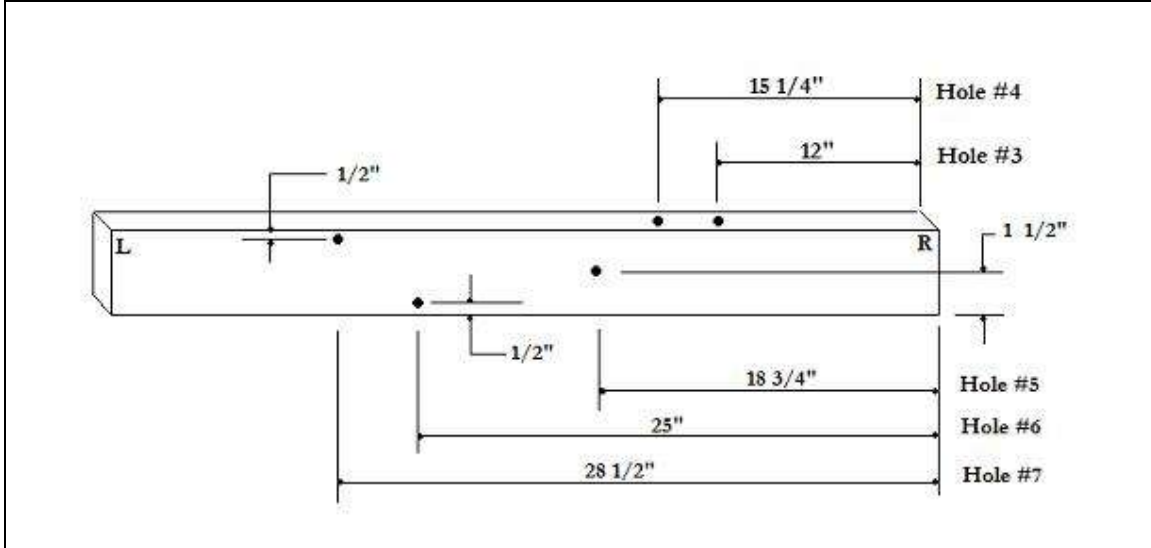

Fig. 2 - Rear Treadle Pulley Support Crossmember Holes
1) Install the Eye-Bolt for the Spring Lever Cord – (See Figure 2 & 4) From the inside, rear of the loom, into Hole No. 5 of the Rear Crossmember, insert the 5/16 -18 x 4” Eye-Bolt, with one (1) 5/16 –18 Jamb Nut and one (1) 5/16 “ Flat Washer. Secure it, on the outside of the Crossmember, with one (1) 5/16” Washer, and one (1) 5/16 –18 Nylock. This entire sub-assembly should be installed as follows:
2) Mount the Spring Lever Assembly – (See Figures 2 & 4) Load one (1) 3/8 – 16 x 3 1/2” Hex Bolt with one (1) 3/8 Washer, the Spring Lever (with factory inserted Bushing), and black plastic Spacer. Check to see that the hex bolt holding the Pulley, which is mounted on the side of the Lever, is pointing in the same direction as the hex
3) Mount the Spring Assembly – (See Figure 2 & 4) From the inside, rear of the loom, into Hole No. 7 of the Rear Crossmember, insert the 5/16 - 18 x 3 1/8" J-Bolt, with one (1) 5/16 – 18 Jamb Nut and one (1) 5/16 " Washer. Secure it, on the outside of the Crossmember, with one (1) 5/16" Washer and one (1) 5/16 – 18 Nylock. This entire sub-assembly should be installed as follows: